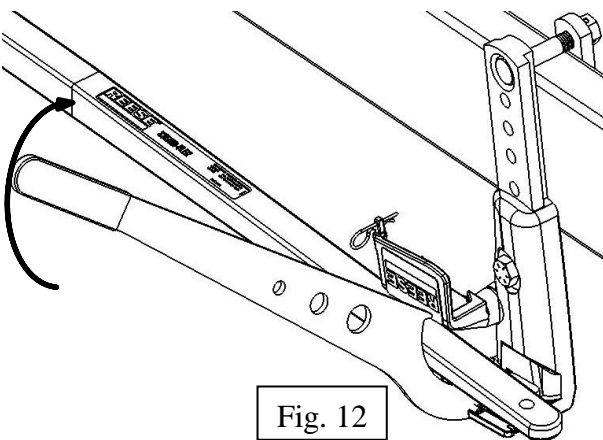

Fig. 12
28. Open spring bar cover and use the lift handle to place the spring bars onto the friction pads (See Fig. 12).